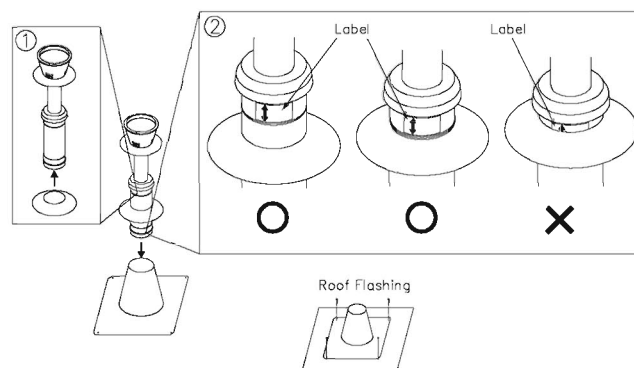

Fig.2 Detail of vertical installation
5. Once the vent system reaches the roof, fasten the Roof Flashing to the roof with appropriate fasteners for various building materials. Seal between the parts of roof flashing and roof. (See Fig.2)
6. Slide Storm Collar Ring onto Vertical Termination or the straight pipe if vertical extending is needed. Fasten Storm Collar Ring at the appropriate point. Use caution when loosening or tightening the Storm Collar Ring as to not cause damage to the clamp.* Slide the Vertical Termination or the straight pipe with the Storm Collar Ring down to rest on the Flashing. Use high temperature sealant to seal the Storm Collar Ring to the vent so that rain will not penetrate the roof opening. (See Fig.2)
* When fastening the Storm Collar to Vertical Termination, the Storm Collar Ring should not cover any portion of the label on Vertical Termination. This will help ensure the proper amount of air flow to Vertical Termination, which is necessary for proper combustion. (See Fig.2)